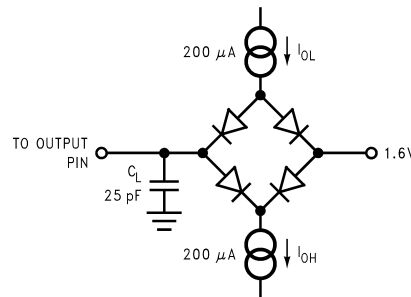

Figure 1. Timing Test Circuit
(1) All input signals are specified as $t_r = t_f = 5\text{ ns}$ (10% to 90% V_{DD}) and timed from 1.6 V.
(2) Minimum quiet time required between bus relinquish and start of next conversion.
(3) Measured with the load circuit (Figure 1), and defined as the time taken by the output to cross 1 V.
(4) Measured with the load circuit (Figure 1), and defined as the time taken by the output to cross 1 V or 2 V.
(5) t₈ is derived from the time taken by the outputs to change by 0.5 V with the loading circuit (Figure 1). The measured number is then adjusted to remove the effects of charging or discharging the 25-pF capacitor. This means t₈ is the true bus relinquish time, independent of the bus loading.